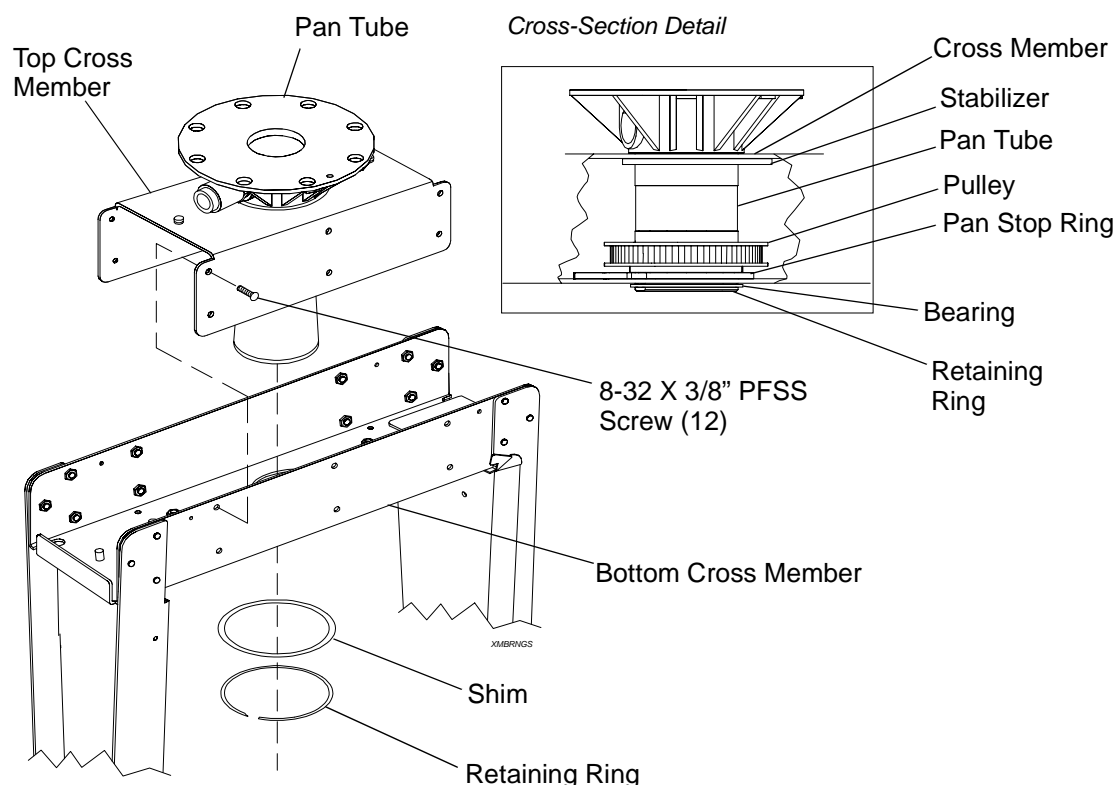

Figure 2-25: Removing Top Cross Member and Pan Tube
- Step 11. At cross member, using #2 Phillips screwdriver, remove twelve 8-32 X 3/8" PFSS screws securing top cross member to bottom cross member. Figure 2-25.